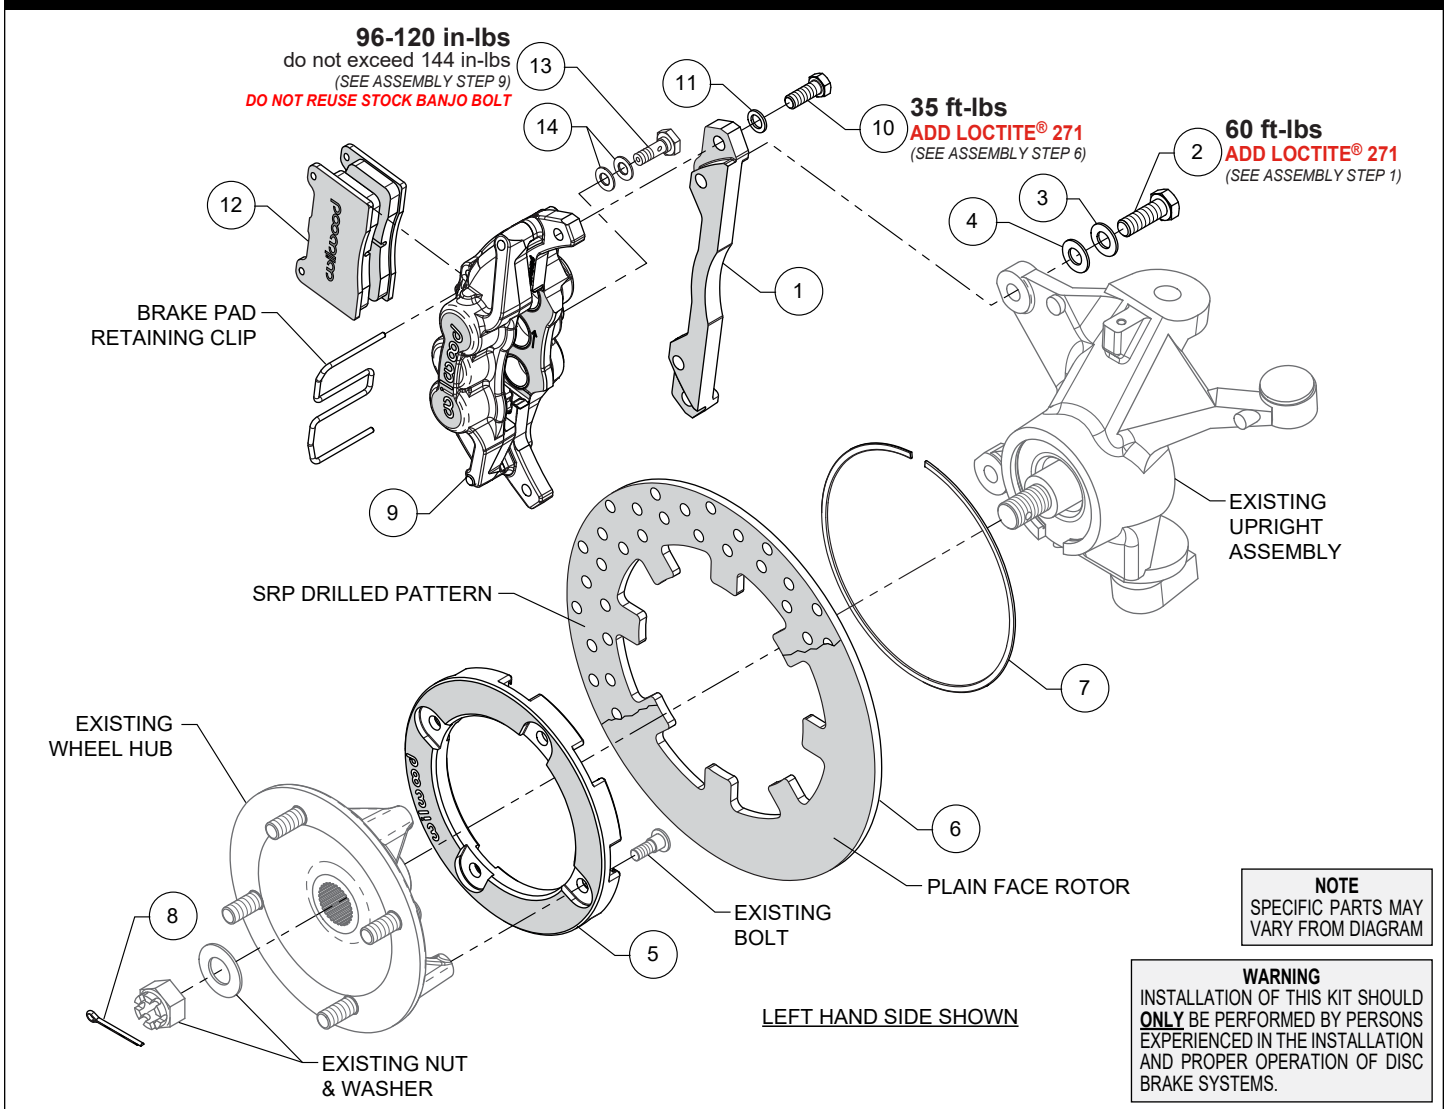

Figure 1. Typical Installation Configuration
**NOTE:** Numbers in parenthesis refer to the parts list and Figure 1 on the preceding pages.
**STEP 1** Orient the caliper mounting bracket (1), as shown in Figure 1 and Photo 1. Install using bolts (2), washers (3), and shims (4) as shown in Figure 1 and Photo 1. Apply red *Loctite*® 271 to the bolt threads and torque to value shown in Figure 1.
**STEP 2** Place the existing OEM wheel hub face down and position the rotor adapter (5) onto the wheel hub as shown in Photo 2. **NOTE:** The existing wheel hub must be free of dirt and debris or excessive rotor run out may result. Attach rotor adapter to wheel hub using existing OEM bolts, Photo 3. Torque to OEM specifications.
**STEP 3** Position the rotor (6) onto the rotor adapter (5), making sure the rotor lugs fit into the recesses of the rotor adapter, as shown in Photo 4.
**STEP 4** Secure rotor to the rotor adapter using the snap ring (7) by installing the snap ring into the groove of the rotor adapter, as shown in Photo 5. Carefully inspect snap ring to ensure complete engagement in the groove.
**STEP 5** Grease the splines and outer snout of the existing wheel hub and slide the wheel hub/rotor assembly onto the axle and attach using the existing OEM washer and castle nut. Tighten to OEM specifications and secure using cotter pin (8), Photo 6.
**STEP 6** Secure the caliper (9) to the mounting bracket (1) using bolts (10) and washers (11), as shown in Figure 1 and Photo 7. Apply red *Loctite*® 271 to the threads, and torque to value shown in Figure 1.
**STEP 7** Remove the pad retainer clip from the caliper (9). Insert the brake pads into the caliper with the friction material facing the rotor, as shown in Photo 8. Reinstall the pad retainer clip, Photo 9.
**STEP 9** Attach brake line to caliper. Connect existing OEM flexline to caliper using banjo bolt (13) and crush washers (14). Do not use lubricant or thread sealant on banjo bolt (13). Torque to minimum value shown in Figure 1. Check for leakage, increasing torque only to stop leakage without exceeding maximum specification. Replace crush washers and banjo bolt whenever reassembly is required. Wilwood offers a brake flex line hose kit to fit this application (sold separately), order **p/n 220-17626**. Hose kit includes hoses, fittings, etc., all in one package for this application. **Ensure hoses are routed to prevent contact with moving suspension, brake or wheel components.**